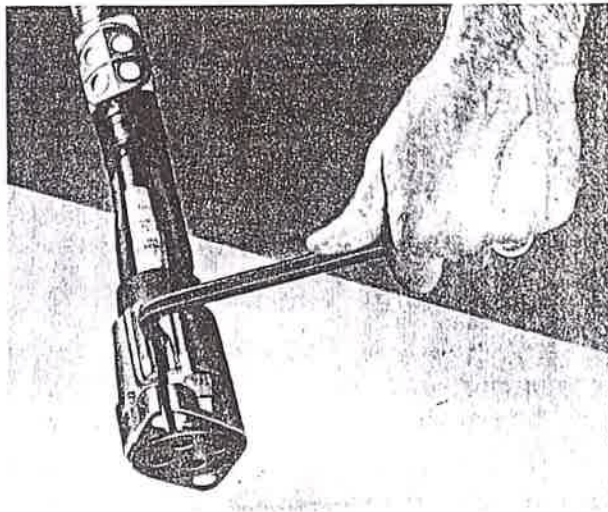

Figure 16 — Preparing Terminal Box Clamps
To ease clamp (180) over terminal box (182), it may be necessary to spread the clamp at the side split, as shown in Figure 16.